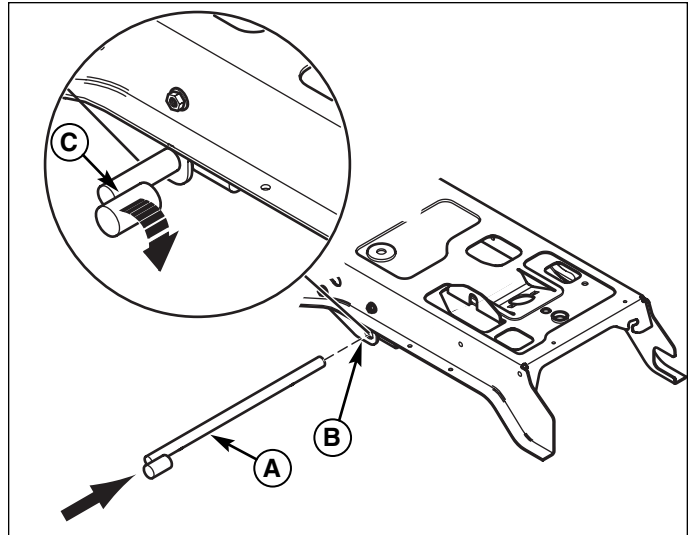

Figure 7. Install Lift lever Assembly
1. Slide Lift Shaft Assy (A, Figure 7) into key-slotted hole (existing - attached to frame (B)) aligning key in Lift Shaft Assy (A) with key slot in hole (B).
2. Rotate the Lift Shaft Assy (C) 180 degree to the right to secure the Lift Shaft Assy in place.